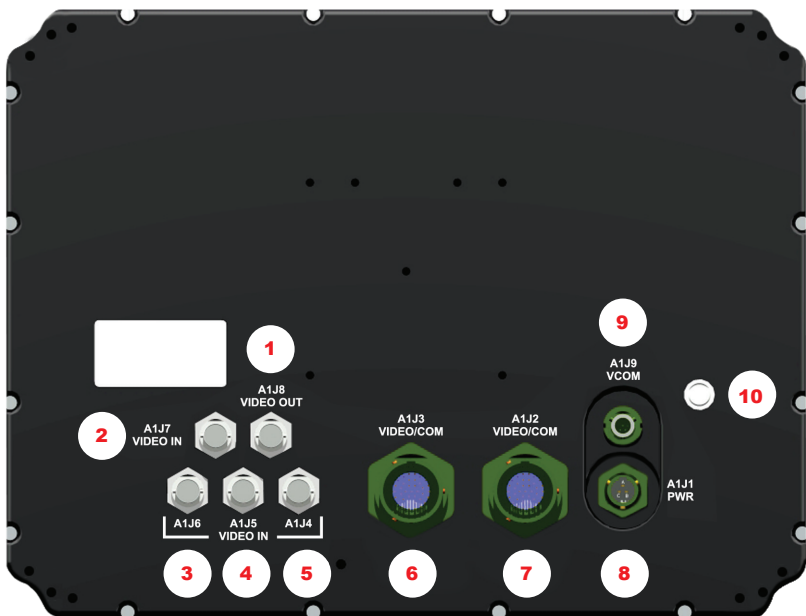

FIGURE 1
The DTT8400 Connectors are fully sealed, and the chassis meets IP67/NEMA 6. From left to right, see Figure 1, Table 1 for Connector Assignments.
- Align up with A1J1 connector; See Figure 1, #8
- Align with A1J2 or A1J3 connector; See Figure 1, #7, #6
- Align with A1J4-A1J7 - IN connector; See Figure 1; #5, #4, #3, #2
- Align with A1J8 - OUT connector; See Figure 1, #1
- Align with A1J9 - VCOM connector; See Figure 1, #9